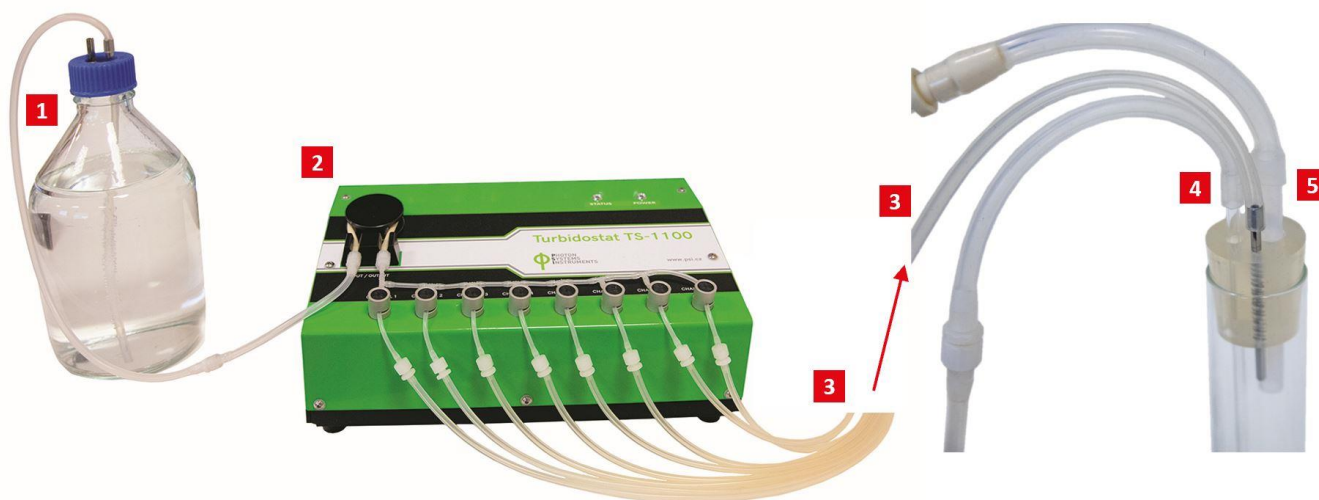

Fig. 10 Connection of Turbidostat module.
- Connect the input of the medium dispenser tubing to the fresh medium stock bottle (see Fig. 10 - 1). Use the metal lid with two ports, silicone ring and silicone tubing (\varnothing 3/6 mm) for this purpose. One port is intended for fresh medium supply and the other port has to stay open to prevent a formation of negative pressure in the bottle as the medium is pumped out. It's possible to use a suitable filter for the open port to prevent a contamination.